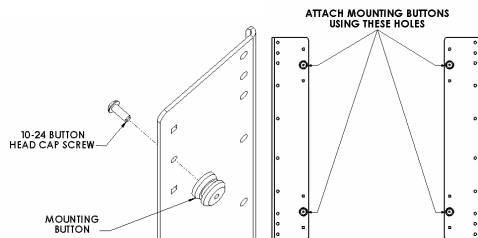
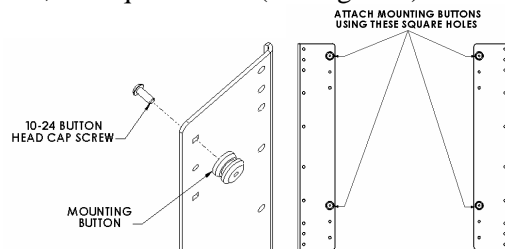

Figure 2 (37" SCREENS)
Figure 3 (42" SCREENS)
1. Using a 10-24 button head cap screw inserted from back side of bracket, secure mounting button with chamfered hole of mounting button (larger surface) facing bracket, to side brackets (four places). For 37" screens, use circular holes (see Figure 2). For 42" screens, use square holes (see Figure 3).